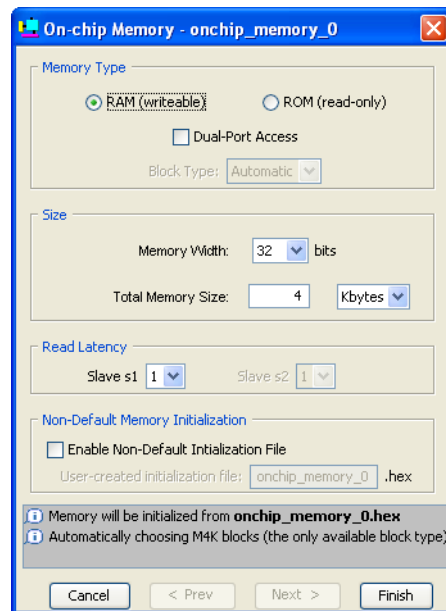

Figure 8. Define the on-chip memory.
- In the On-Chip Memory Configuration Wizard window, shown in Figure 8, set the memory width to 32 bits and the total memory size to 4 Kbytes